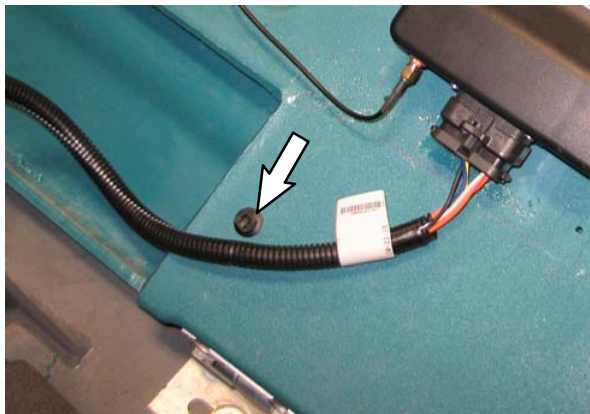

FIG. 13
12. Drill another 0.25 in. (6.35 mm) hole into the inner surface near the bottom of the front shroud, near the hinge. **Do Not** drill into the front surface of the front shroud. (Fig. 13)
13. Install another wire tie clip (5) onto the front shroud. (Fig. 13)